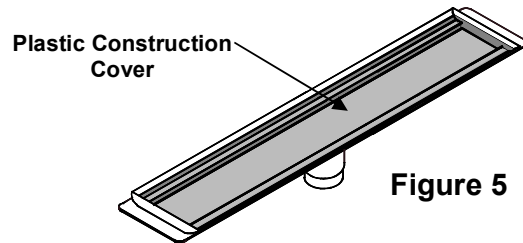

Figure 5
13. Make sure the plastic Construction Cover is secured in the Channel Drain to prevent concrete entering the drain unit (see Figure 5).
14. When the gunite or shotcrete is applied, pack the concrete tightly under the Channel Drain and finish the floor around the drain to 1/2" below the lip, then make a finger swipe under the water seal of the drain so that finish material can be applied under the lip of the water seal (see Figure 5).